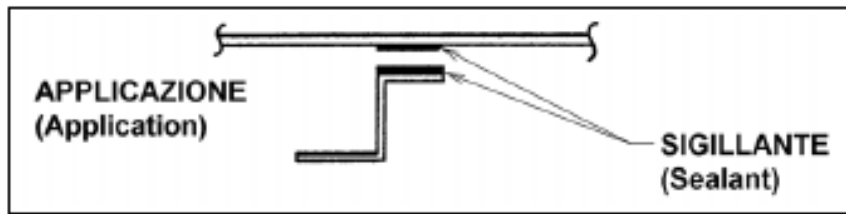

Fig. 2: Sealant application
- b) Apply sealant on both surfaces to joint (see Fig. 2 and Fig. 5). If necessary smooth it with a spatula paying attention not to create depressions or protrusions.